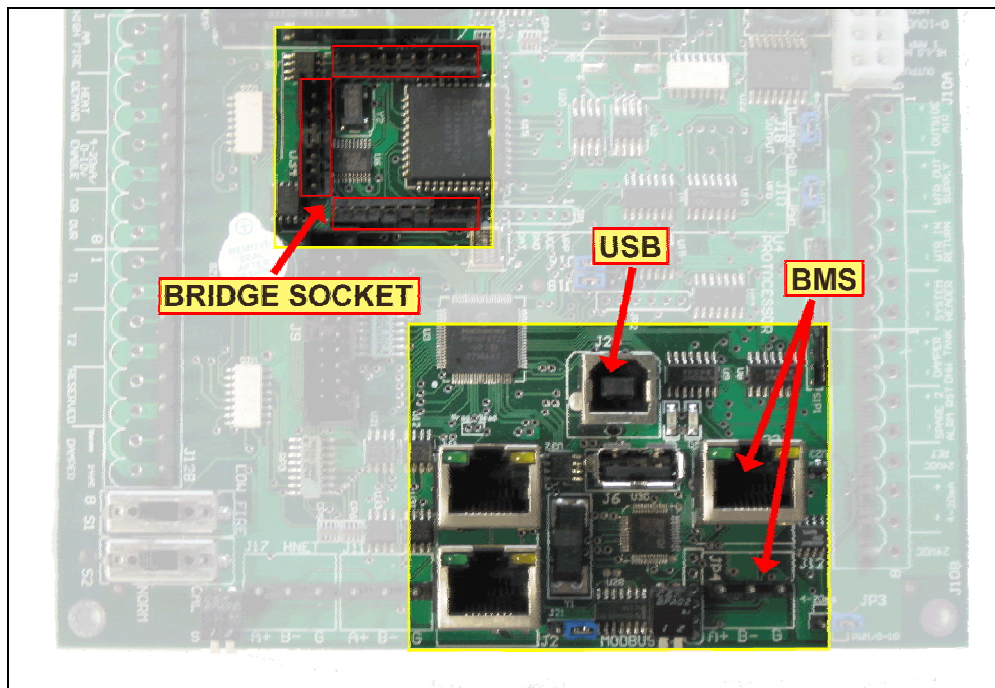

Figure 6: Built-in USB communications port.
The following HeatNet controls have built-in (Figure 6) communications and USB ports:
- 1) Remove any connections to the BMS ports (see Figure 6).
- 2) Remove any BACnet or LonWorks bridges installed in the “bridge” socket (see Figure 6). **TO PREVENT POSSIBLE DAMAGE TO THE BRIDGE, TURN OFF POWER BEFORE REMOVING OR RE-INSTALLING.**